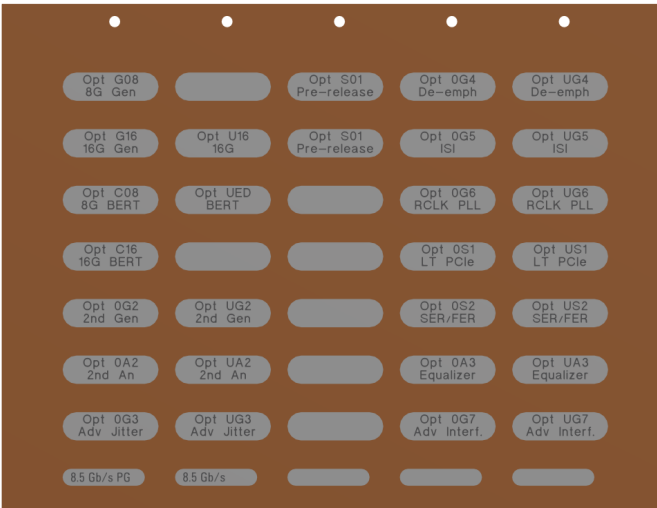

Figure 22 Option label sheet
Whenever the M8020A is upgraded with additional options, it is recommended that you affix the corresponding label(s) to the front panel of the module. The option labels provide a quick view of which options are installed in each module. **Figure 22** on page -60 shows the option label sheet provided with your M8020A system.
- 1 Locate the option label sheet shown in **Figure 22** on page -60.